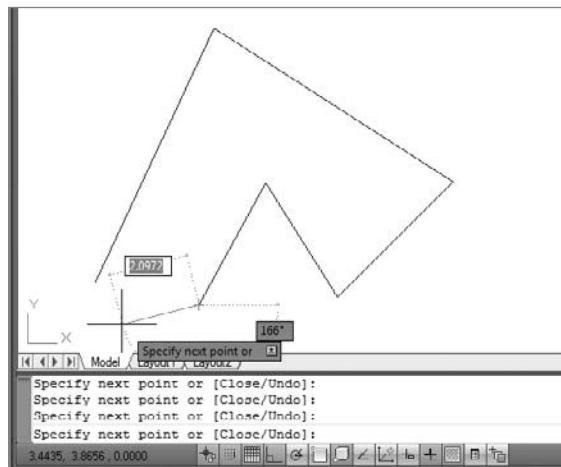

FIGURE 2.9 Drawing several line segments
7. Continue picking points and adding lines as you move the cursor around the screen (see Figure 2.9). After you draw the second segment, the command window repeats the *Specify next point or [Close/Undo]:* prompt each time you pick another point. The Dynamic Input fields and command prompt appear near the cursor, showing the angle and distance from the last point selected.